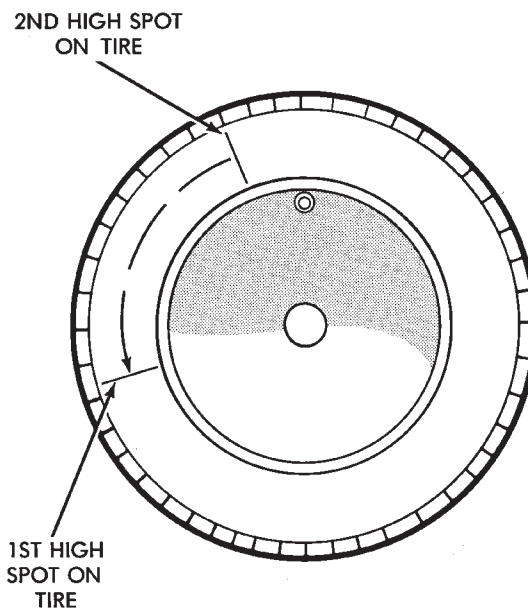

Fig. 7 Remount Tire 90 Degrees In Direction of Arrow
(3) Measure the total indicator runout again. Mark the tire to indicate the high spot.
(4) If runout is still excessive, the following procedures must be done.
- If the high spot is NOT within 101.6 mm (4.0 in.) of either high spot, draw an arrow on the tread from second high spot to first. Break down the tire and remount it 90 degrees on the rim in that direction (Fig. 7). This procedure will normally reduce the runout to an acceptable amount.